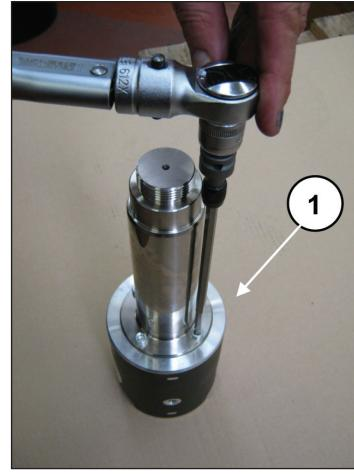

Fig. 43
To separate the rod from the piston guide, unscrew the round head M6 screws with a special wrench (pos. ①, Fig. 43).